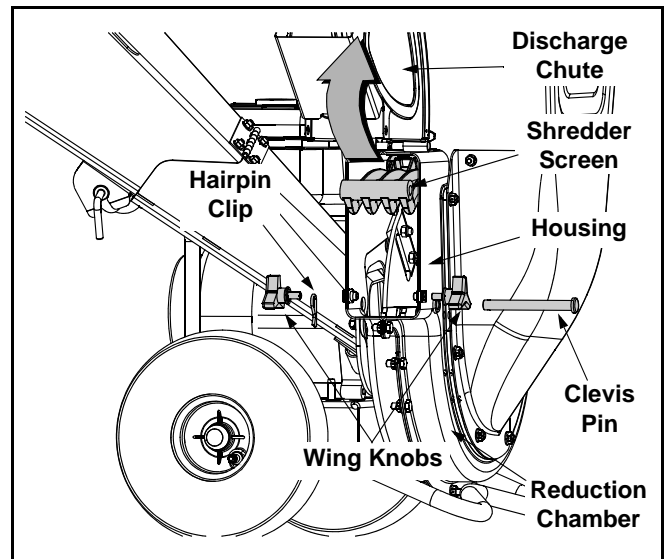

Figure 8
- Remove the two wing knobs on either side of the discharge chute and pivot the discharge chute upward. See Figure 8.
- Remove the hairpin clip from the clevis pin which extends through the housing and shredder screen. See Figure 8. Retain the clevis pin and hairpin clip.